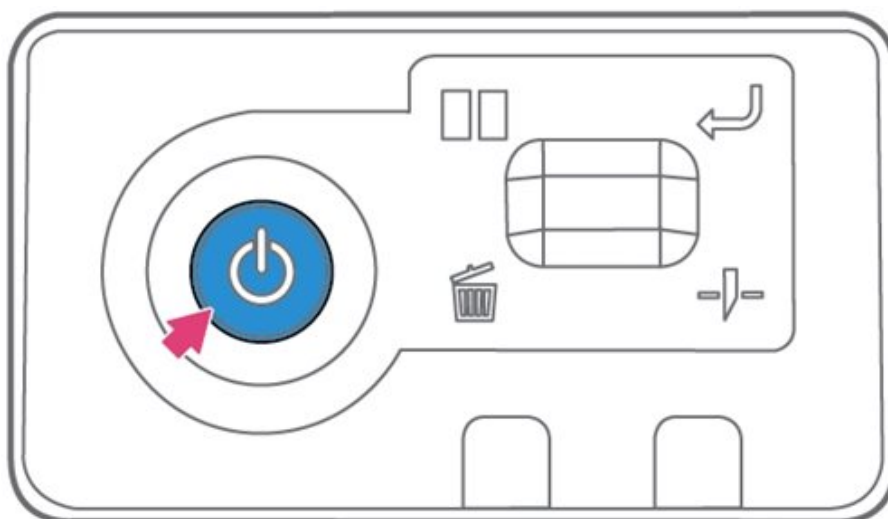

Figure 29
10. Turn the printer power on. The blue indicator will light up and the printer will start to power up. See Figure 29.